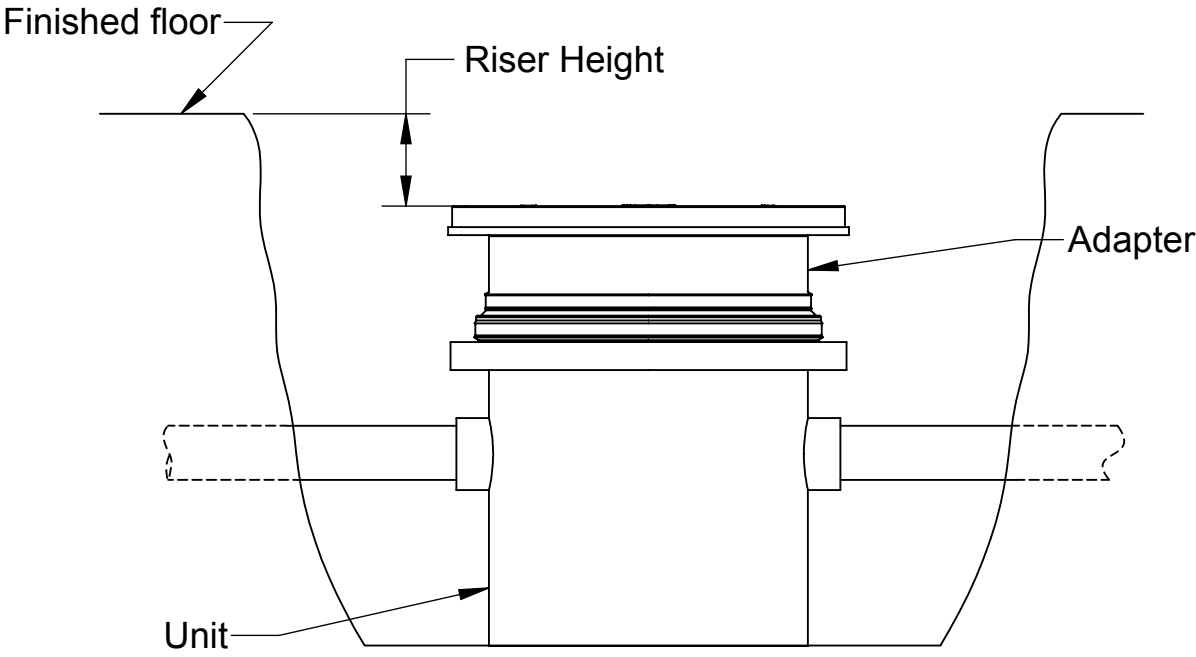

Figure 1
2. If unit is to be buried: Once unit is set so that the pipe connections line up with jobsite piping, measure total riser height needed from top of cover to finished grade. Make sure you include any future tile work, etc. that may be installed in your finished grade measurements. See figure 1.